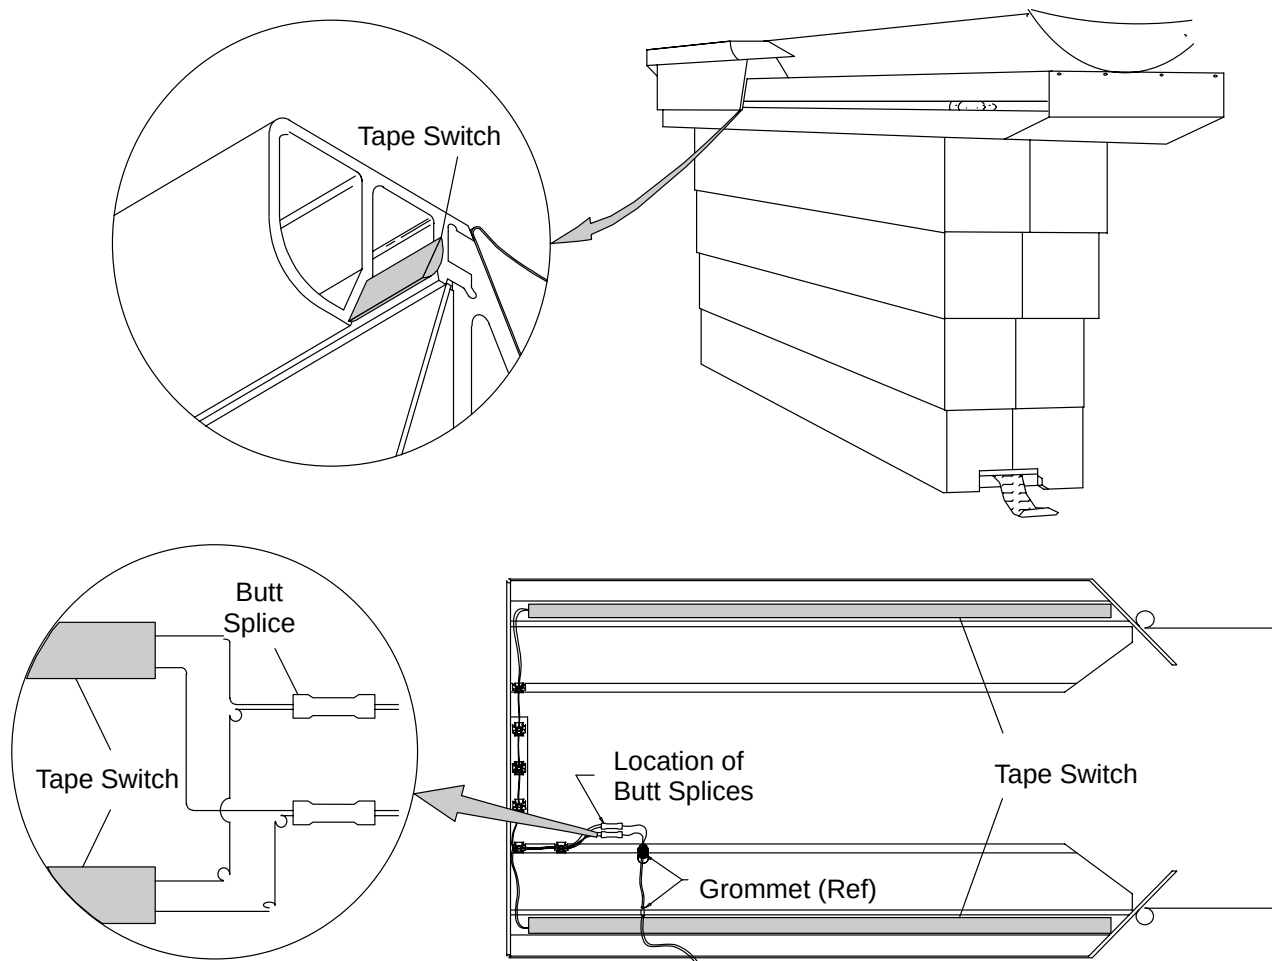

FIGURE 192 BOTTOM VIEW OF CARBON TOP
6. Locate the Splices where the defective Tape Switch is joined to the Wire Harness. Cut the defective Switch Wires at the Splices. See Figure 192.